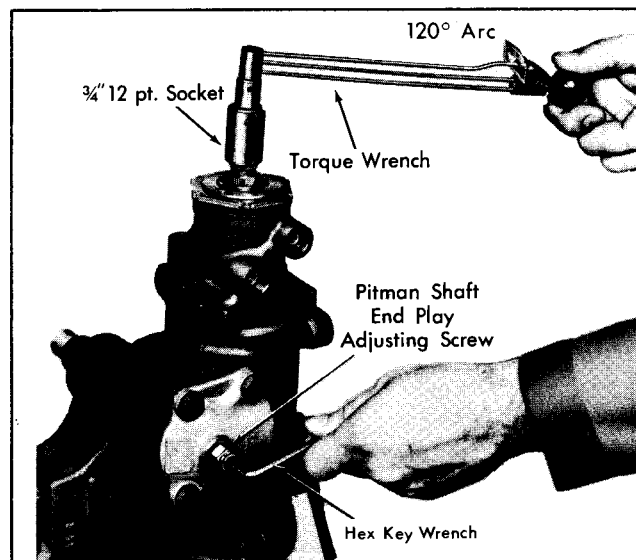

Fig. 9-80 Pitman Shaft Over-Center Adjustment
1. With gear on center, loosen pitman shaft (lash) adjuster screw lock nut and tighten pitman shaft lash adjuster screw. Retighten lock nut (holding lash adjuster screw to keep it from turning) and measure gear over-center torque at stub shaft. When checking over-center torque, torque wrench should be rotated through a 180 degree arc either side of center and readings taken going over-center. Continue adjusting lash adjuster screw and checking over-center torque (with lock nut tightened) until correct over-center torque is obtained. See Fig. 9-80. Limits for new and old gears are different, as follows: